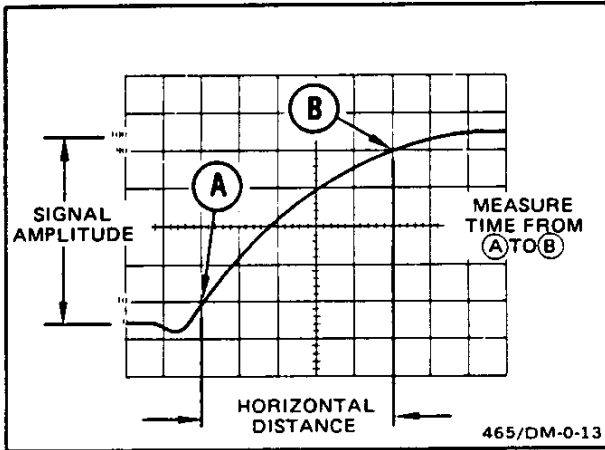

Figure 16. Rise time.
Rise-time measurements use the same methods as time duration, except that the measurements are made between the 10% and 90% points on the leading edge of the waveform (see Figure 16). Fall time is measured between the 90% and 10% points on the trailing edge of the waveform.
4. Adjust vertical positioning so that the zero reference of the waveform touches the 0% graticule line and the top of the waveform touches the 100% graticule line (see Figure 16).
6. Horizontally position the display so the 10% point on the waveform intersects the second vertical graticule line (see Figure 16, Point A).
**EXAMPLE:** The horizontal distance between the 10% and 90% points is 5 divisions (see Figure 16), and the A SEC/DIV switch is set to 1  $\mu$ s. The X10 magnifier knob is pushed in (1X magnification).